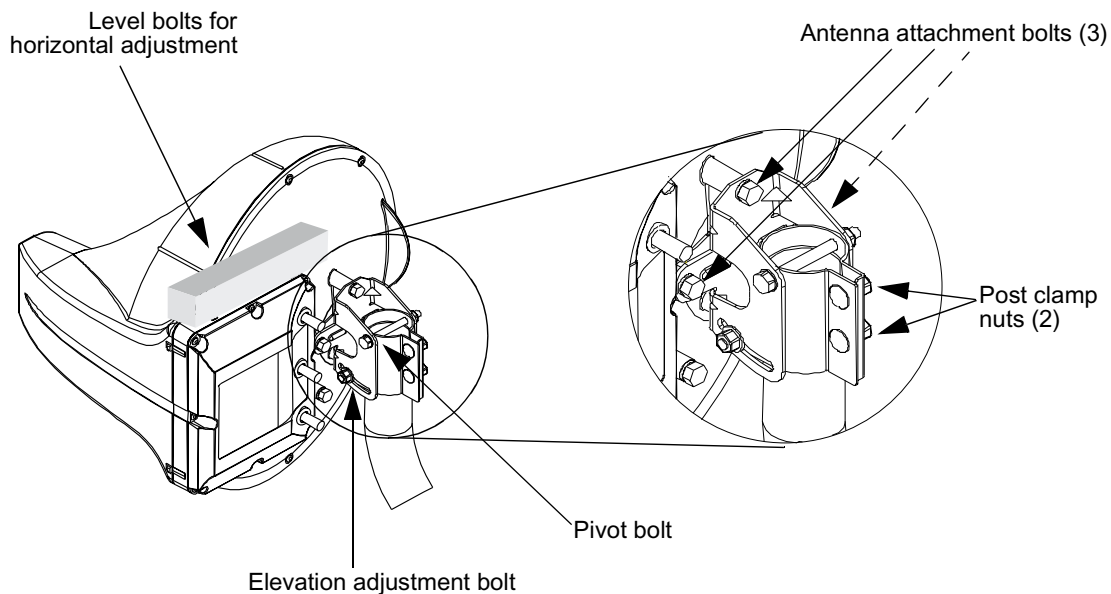

Figure 4. Fine-Tuning the Antenna Physical Adjustment
3. Hold the antenna assembly in place and fasten the post clamp nuts (see Figure 4).
6. Holding the antenna assembly from the rear, loosen the elevation adjustment bolt (see Figure 4).
12. To adjust the azimuth, loosen the post clamp nuts (see Figure 4).